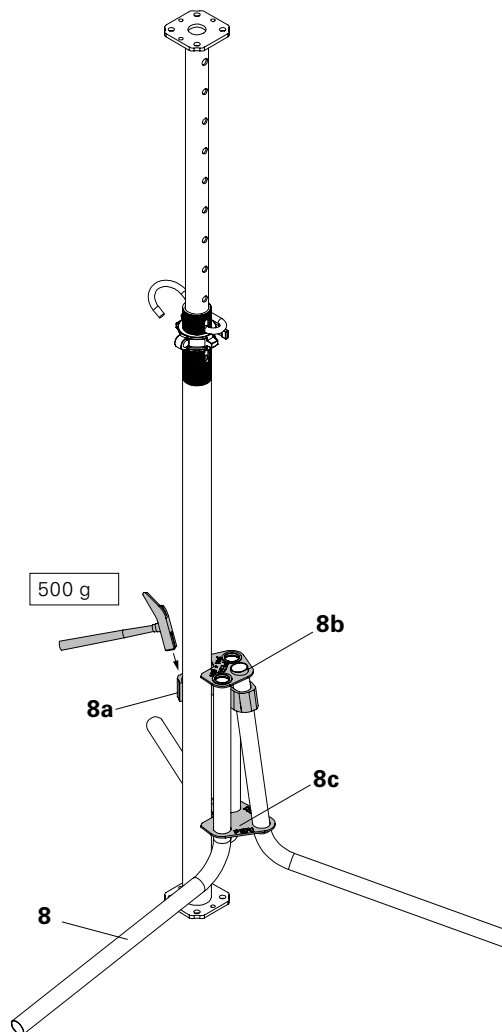

Fig. A1.03
1. Insert pre-assembled slab prop into the tripod (8). (Fig. A1.03)
2. Secure push-pull device (8a) with a hammer. (Fig. A1.03)